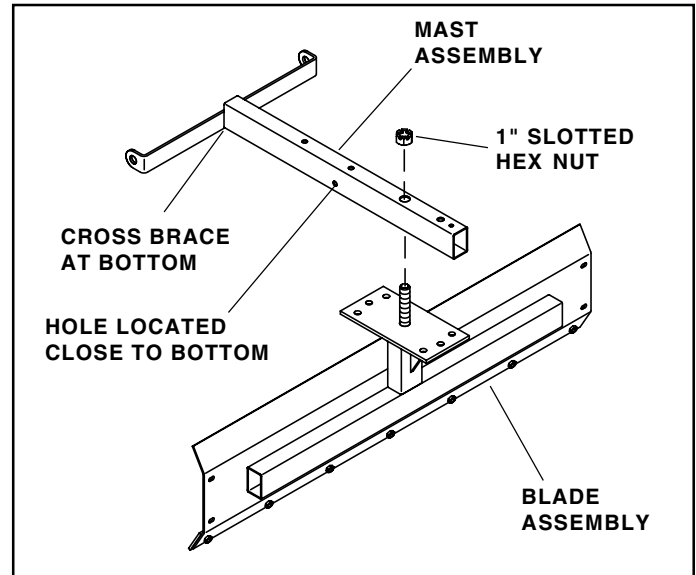

FIGURE 2
2. Turn the mast assembly so that the cross brace is at the bottom and the hole in the side of the mast assembly is close to the bottom. Place the mast assembly onto the threaded stud on the blade assembly. Turn a 1" slotted hex nut down onto the stud until it is snug. The cross brace should be in front of the blade. See figure 2.